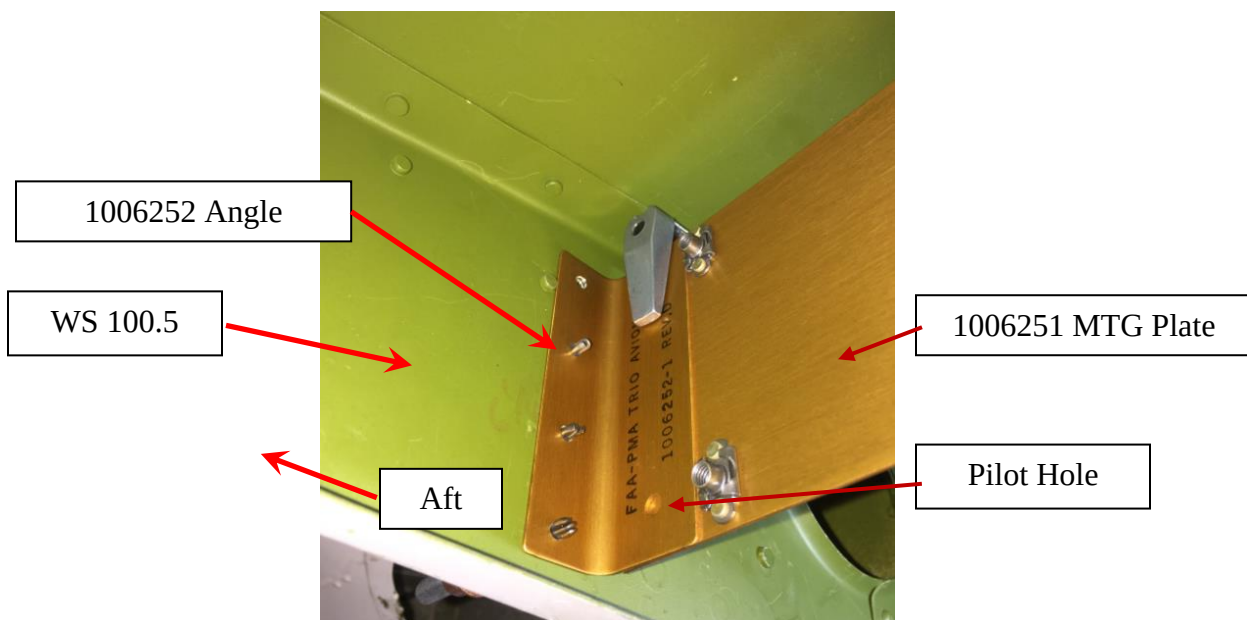

FIGURE 2-10 1006252 ANGLE AND 1006251 MOUNTING PLATE INSTALLATION
4. Remove the mounting plate and drill (2) #17 drill size holes at the marks using the three-step method. #40 (0.098"), #30 (0.1285"), and #17 (0.173") drill bits.
5. Secure the mounting plate to the angle using the appropriate clamps or as shown in Figure 2-10.
6. Center punch, or mark, through the 1006251 mounting plate holes to the angle piece. Refer to Figures 2-10 & 2-11.
7. Drill two (2) #40 (0.098") pilot holes.